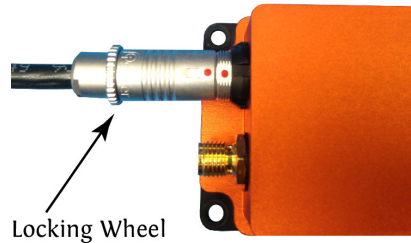

Figure 1-11. Secured LEMO-IMU Connectors.
- f. Hold the Nano in place and gently press the two connector pieces together until the connectors appear as below, Figure 1-11.